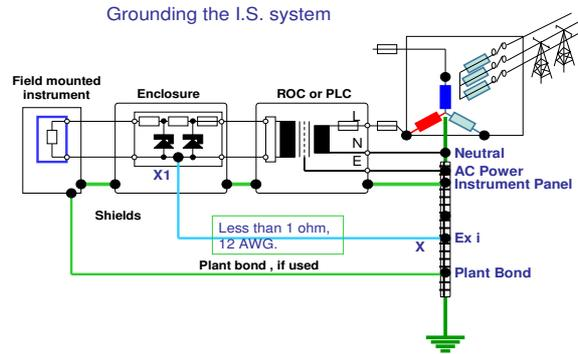

Figure 12
Simply put, the ground circuit from the intrinsically safe, zener barrier to the true, power ground, shown as “X1-X” in Figure 12, must be dedicated, green or green/yellow in jacket color, 12 AWG, and measure less than one (1) ohm.